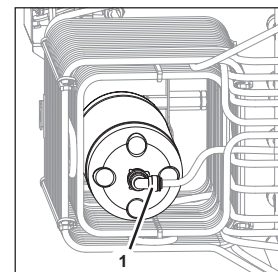

Fig. 81
1. Disconnect the soda water line at the push-in fitting (Fig. 81/1).
10. Attach the soda water line at the push-in fitting (Fig. 81/1).